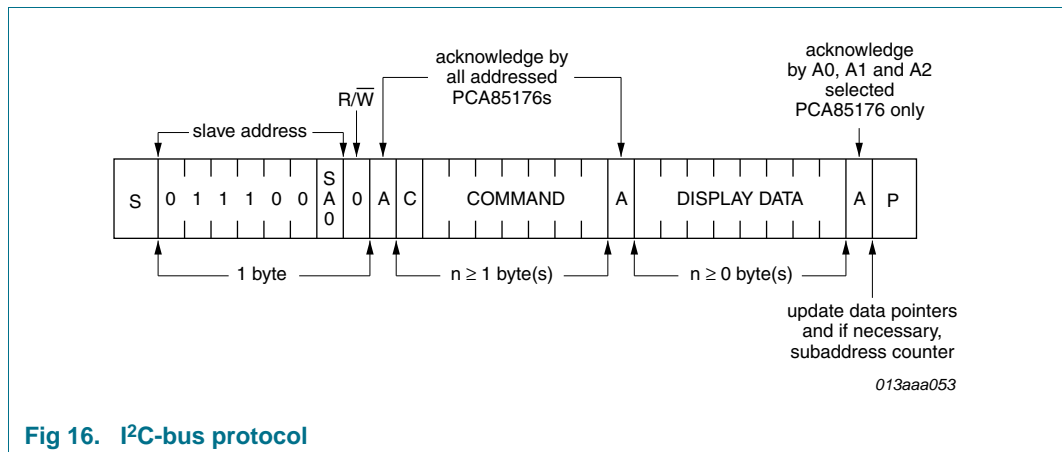

Fig 16. I2C-bus protocol
The I2C-bus protocol is shown in Figure 16. The sequence is initiated with a START condition (S) from the I2C-bus master which is followed by one of two possible PCA85176 slave addresses available. All PCA85176 whose SA0 inputs correspond to bit 0 of the slave address respond by asserting an acknowledge in parallel. This I2C-bus transfer is ignored by all PCA85176 whose SA0 inputs are set to the alternative level.